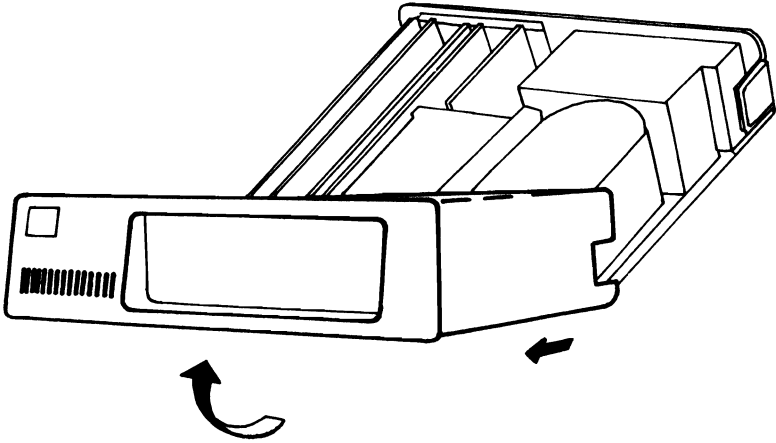

Figure 2A
- Slide the computer's cover towards the front of the computer. When the cover will go no further, tilt it up and remove it, as shown in Figure 2A.